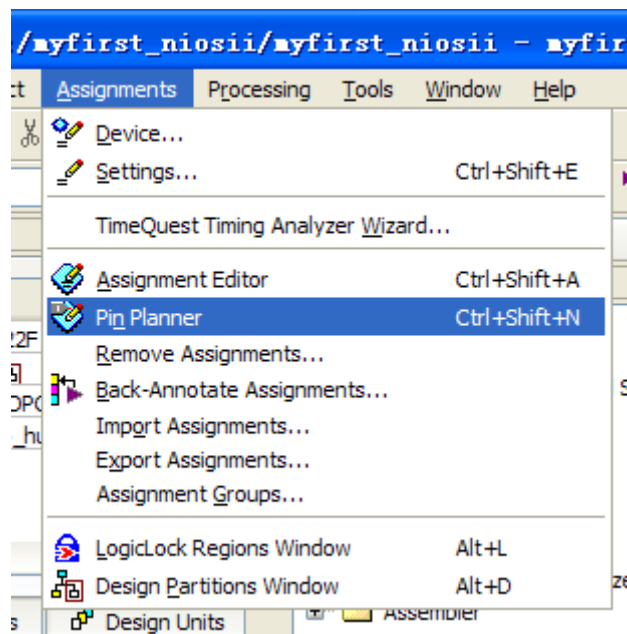

Figure 7-50 Pins menu
38. Now, we will assign the inputs and outputs of the circuit to specific pins. Select **Assignments > Pin Planner** from the menubar, as shown in **Figure 7-50**. The pin planner is shown in **Figure 7-51**.